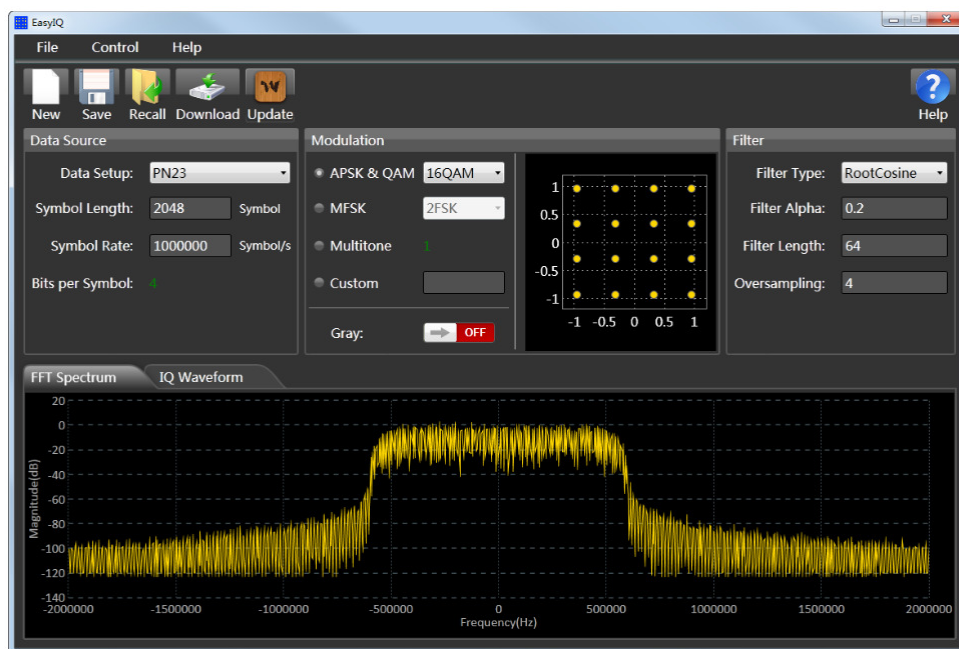

Figure 3-17 EasyIQ Setting
2. Click "Update" button, as shown in Figure 3-17.